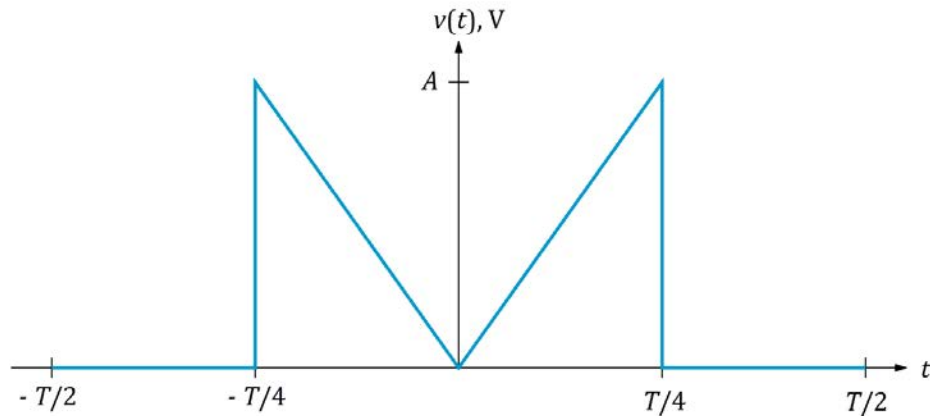

Figure 11.1: Voltage waveform for Problem 11.1
Consider the voltage waveform $v(t)$ shown in Figure 11.1 on the following page.
1. Create the voltage waveform $v(t)$ of Figure 11.1 on the next page with a `PIECEWISE_LINEAR_VOLTAGE` source. Use the same amplitude and period as in the problem statement.